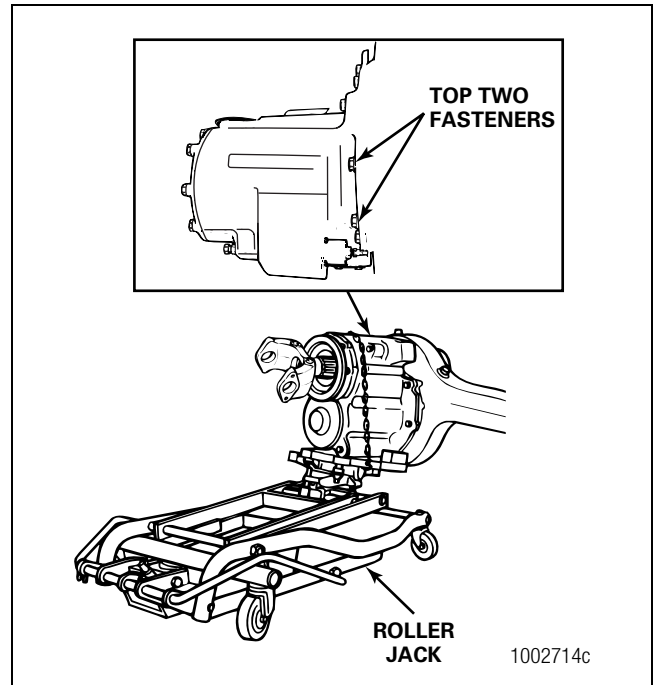

Figure 3.10
1. Place a hydraulic roller jack under the differential carrier to support the assembly. Figure 3.10.
2. Remove all but the top two carrier-to-housing capscrews or stud nuts and washers. Figure 3.10.